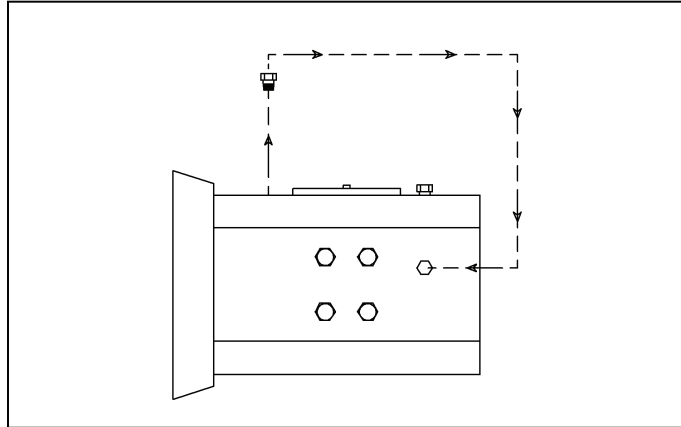
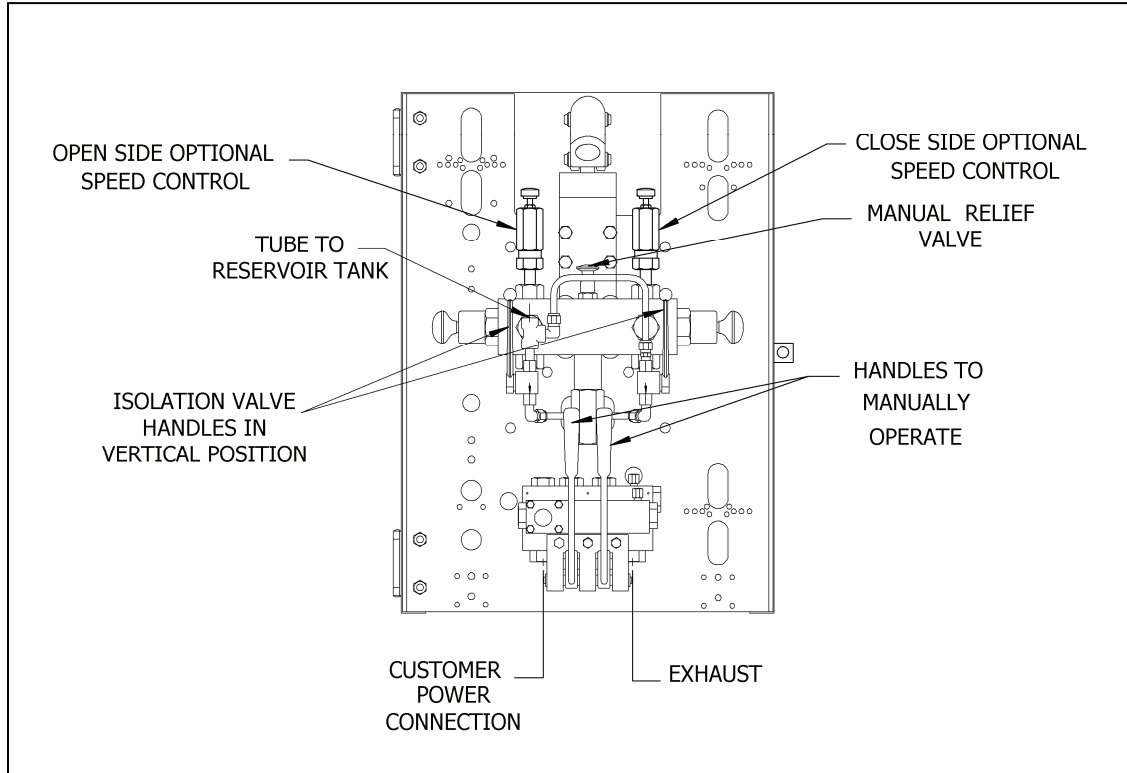

Figure 2: Old Components Removed
Figure 4: View of the Control from the Front
5. Remove the fittings in the side of the actuator that were tubed to the OPEN and CLOSE lines from the old hand pump. Also remove the plugs in the upper head on the control side. Clean the threads of the plugs, apply an appropriate pipe sealant and plug the side ports. (See Figure 2)
5. Run tubing from the discharge ports located on top of the hand pump valve body or optional speed control valves. (See Figure 4) The right side of the pump runs to the port on the right in the upper head of the actuator. The left side of the pump runs to the port on the left in the upper head of the actuator. Make sure you are using the ports in the upper head closest to hand pump, not the ones on the far side. (See Figure 2)
6. Run tubing from the open port in the tee to the reservoir tank. Tee is shown above the left hand isolation valve in Figure 4. It may be above either isolation valve.
8. Use the hand pump to close or open the actuator to purge the actuator and hydraulic lines. To manually stroke the actuator, either open or close, place the isolation valve handles in the horizontal position (see Figure 4) and select the appropriate knob on the selector valve located on the hand pump. This knob is selected by pressing inward toward the pump center.
15. Check to see the isolation valve handles are in the vertical position, as shown in Figure 4. Use the manual handles on the poppet block control to open and close the actuator.